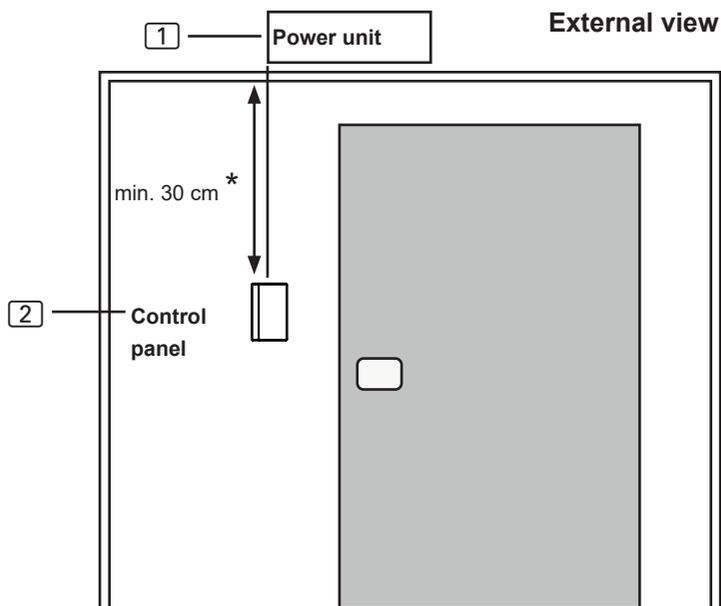

Fig.4 Control panel position
The control panel **2** is installed on the cabin wall at a maximum distance of 10 metres from the power unit **1** (see **Fig.4**).
*For installation inside a sauna cabin, maintain a minimum distance of 30 cm to the ceiling. (see **Fig.4**).